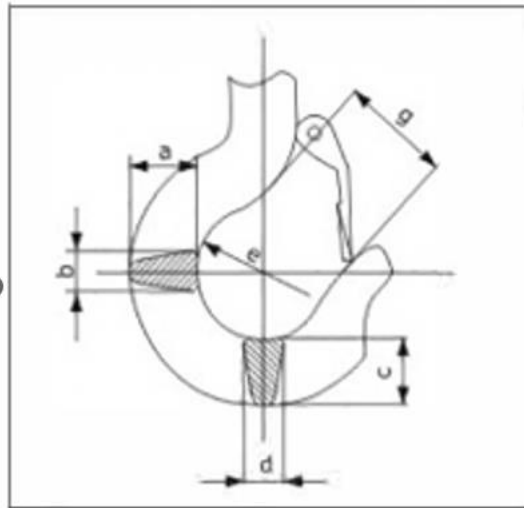

Figure 6.2
c. Inspect hoist hook assembly checking for any cracks or distortion of the hook body and/or excessive wear. If the measured dimensions are 5% or more out of specification the hook assembly needs replaced. See figure 6.2 and table 6.2 for specifications.